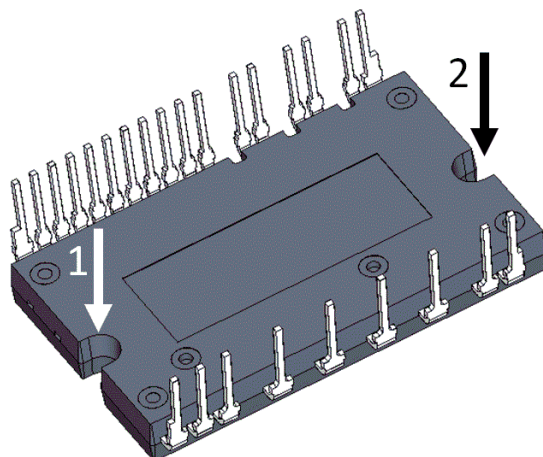

Figure 10. Mounting Screws Torque Order
9. Avoid one side tightening stress. Figure 10 shows the recommended torque order for mounting screws. Uneven mounting can cause the ceramic substrate of the SPM 45 package to be damaged. The pre-screwing torque is set to 20 ~ 30% of maximum torque rating.